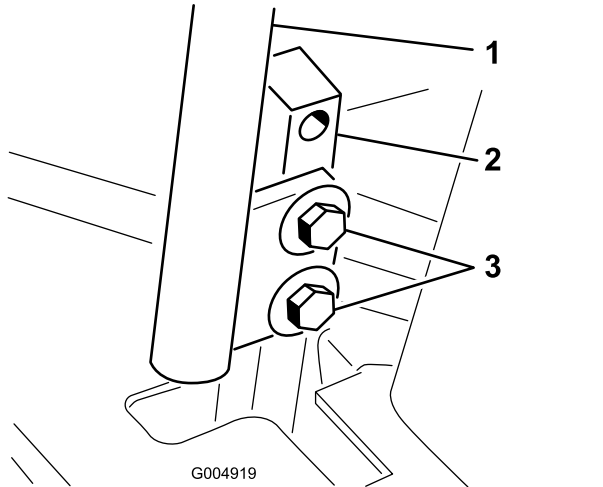

Figure 89
3. Loosen the bolts securing the control levers (Figure 89).